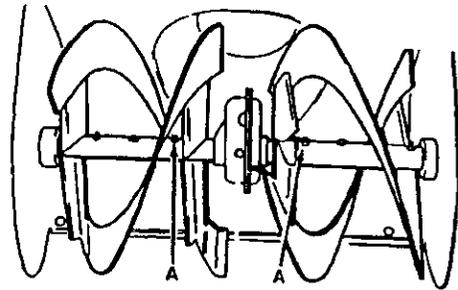

Figure 21
1. **Auger Shaft** – Using a hand grease gun, lubricate the auger shaft zerk fittings (A) every ten (10) operating hours. Each time a shear bolt is replaced, the auger shaft MUST be greased. See Figure 21. See **To Replace Auger Shear Bolt** in the **Service and Adjustment** section.